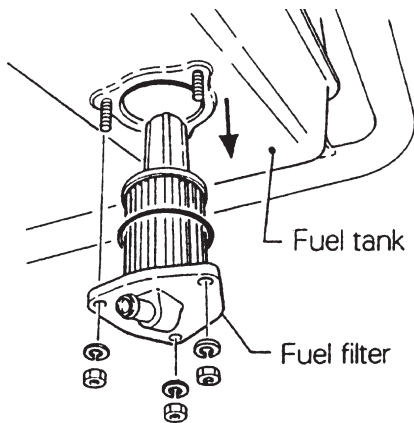

Figure 9. Removing Fuel Filter Cap
- Remove the fuel filter cap and inspect for dirt in the fuel tank. See Figure 9.